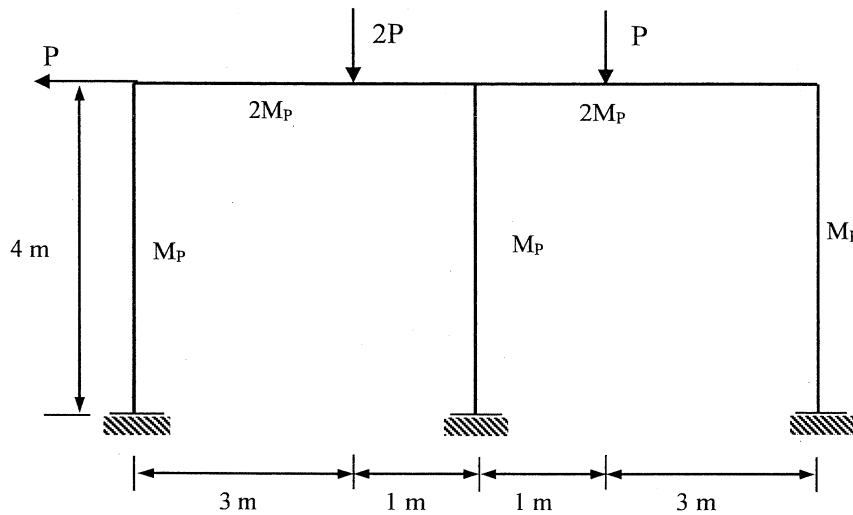

Figure Q6: Two-bay frame structure
- (ii) A two-bay frame structure is shown in Figure Q6. Dimensions and plastic moments of the beam are given in the figure.